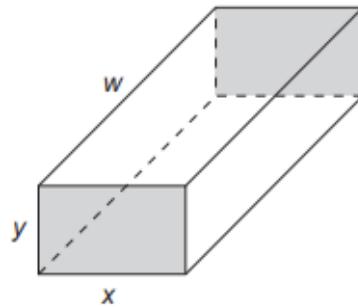

Fig. 3.1
- (a) A uniform metal bar, initially unstretched, has sides of length w , x and y , as shown in Fig. 3.1.